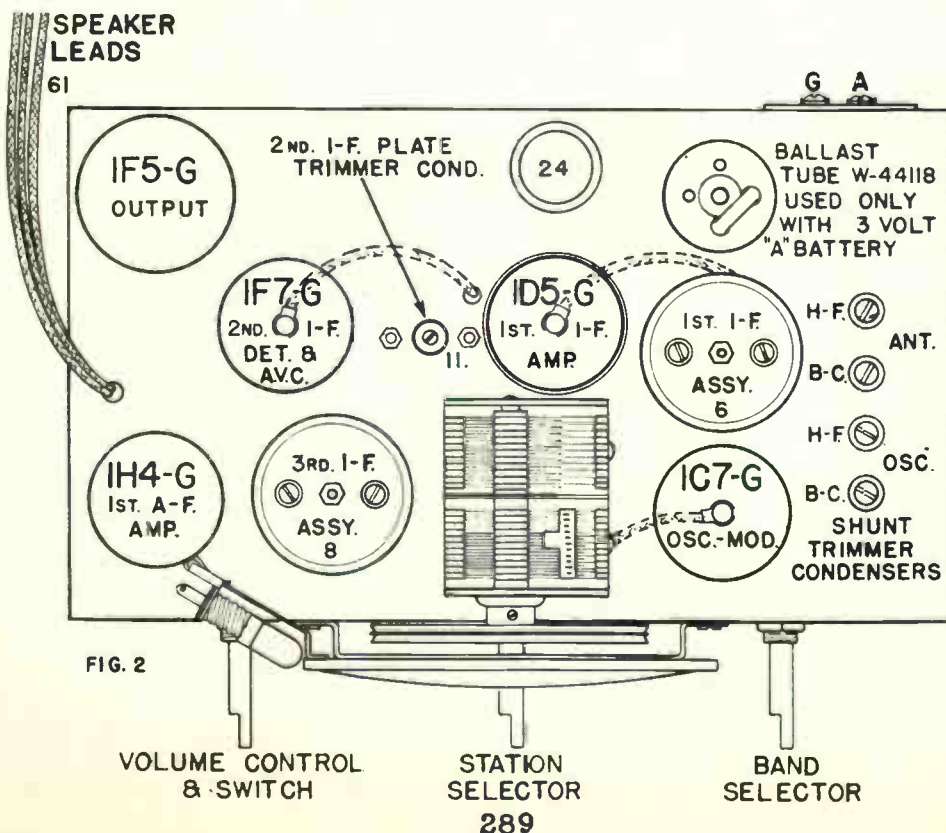

FIG. 2
(e) Adjust both trimmers located on top of the 3rd I-F assembly for maximum output. (See Fig. 2 item 8).
(f) Adjust the 2nd I-F trimmer condenser, Fig. 2 item 11, for maximum output.